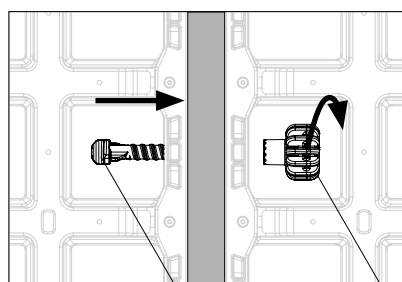

Fig. A3.06d
4. From the other side, screw on the DUO DW 15 grip (**22.2**) by hand. (Fig. A3.06d).